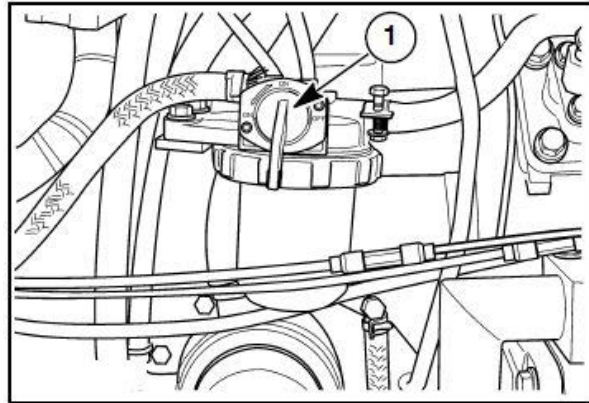

Figure 3-9
2. Open the fuel shutoff valve (1) in Figure 3-9.